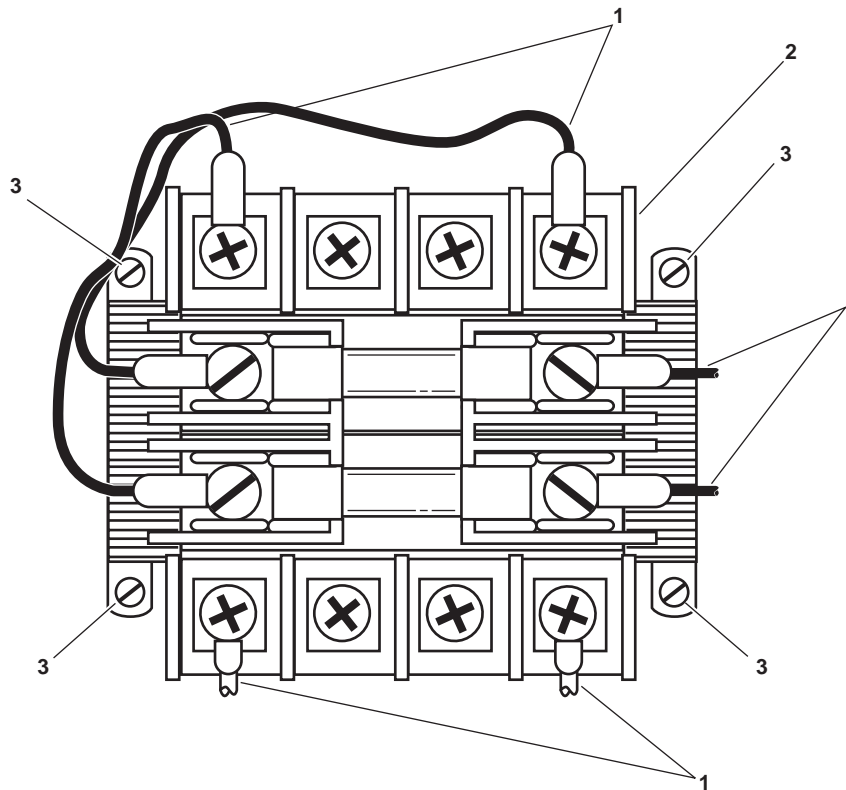

Figure 7. Transformer
2. Label and disconnect the wiring (figure 7, item 1) from the transformer (figure 7, item 2).
3. Remove the four mounting screws (figure 7, item 3) and remove the transformer (figure 7, item 2).
1. Position the transformer (figure 7, item 2) in the enclosure and secure it with the four mounting screws (figure 7, item 3).
2. Connect the wiring (figure 7, item 1) to the transformer (figure 7, item 2) using the labels from step 2 of Removal as a guide. Remove the labels.